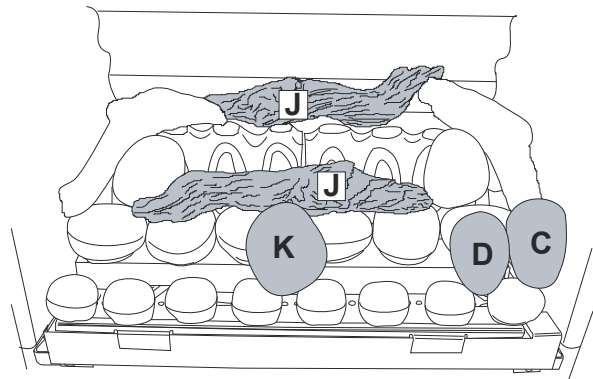

Figure 34
6. Next place the two **J** driftwood pieces and the **K**, **D** and **C** pebbles as in **Figure 34**.